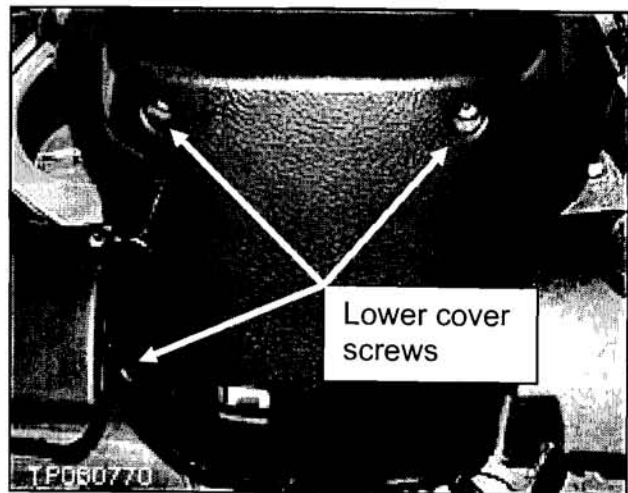

Figure 14
- a. Remove the 3 screws shown in Figure 14.